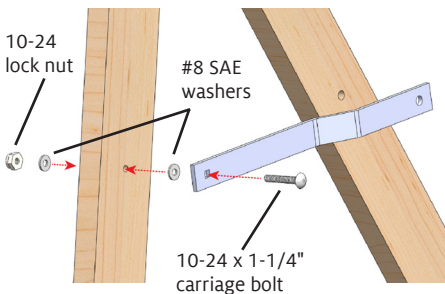

FIGURE 4: ATTACH FOLD-UP SUPPORT TO FRONT LEG
4. Attach the fold-up support to the front leg: Insert a 10-24 x 1-1/4" carriage bolt through the square hole of the support, turning the bolt until it fits tightly into the hole. Insert the bolt through a #8 SAE washer, then through the front leg, and add a #8 SAE washer to the bolt shaft (Figure 4). Secure with a 10-24 lock nut, tightening it as much as possible, then loosening it a quarter turn.